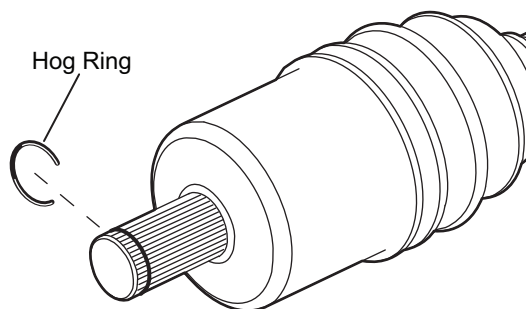

Fig. 11 Hog Ring
9. Make sure that the hog ring is in place on the CV shaft splines (Ref. Fig. 11).